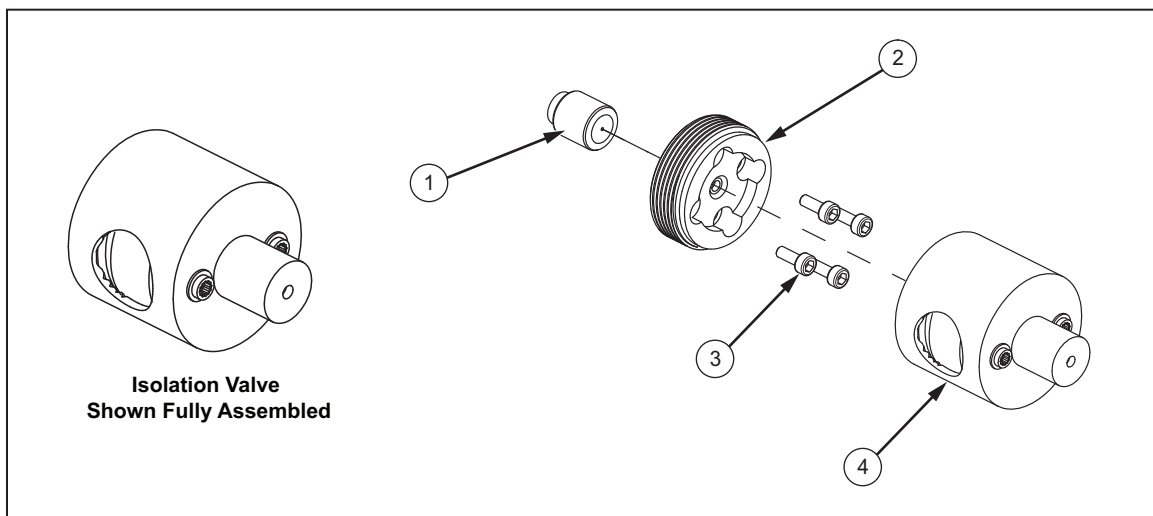

Figure 4-19. NC Isolation Valve
Use the following instructions and reference Figure 4-19 to replace the NC isolation valve (④).
1. With a soft grip pair of channel locks, turn the NC isolation valve (④) counterclockwise to remove.
2. Remove the four screws (③) that attach base of the NC isolation valve to the manifold assembly.
3. Remove the valve body (①) from the manifold assembly.
4. Put the new valve body (①) into the manifold assembly.
5. Install the four screws (③) that attach base of the NC isolation valve to the manifold assembly.
6. With a soft grip pair of channel locks, turn the NC isolation valve (④) clockwise to install.